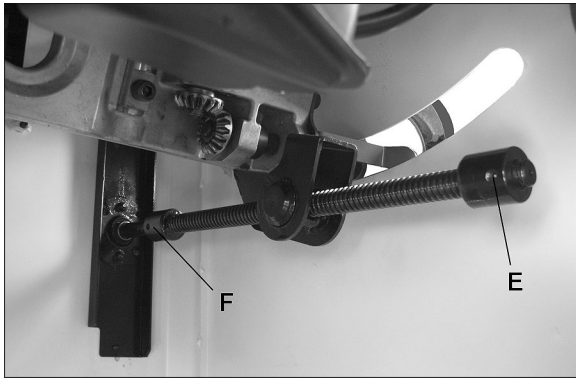
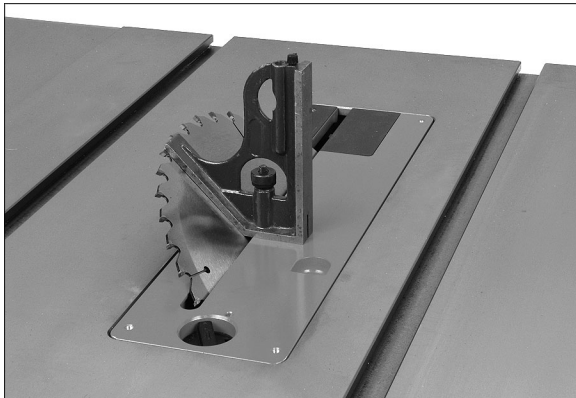

Figure 8-3
Figure 8-4
6. Back out the setscrew in the 90° stop collar (E, Figure 8-3), and position collar to allow further movement of shaft bracket.
8. Turn stop collar until it contacts shaft bracket, and tighten set screw (E).
9. Tilt blade to 45° and verify setting in the same manner as above. See Figure 8-4. Adjust 45° stop collar as needed (F, Figure 8-3).